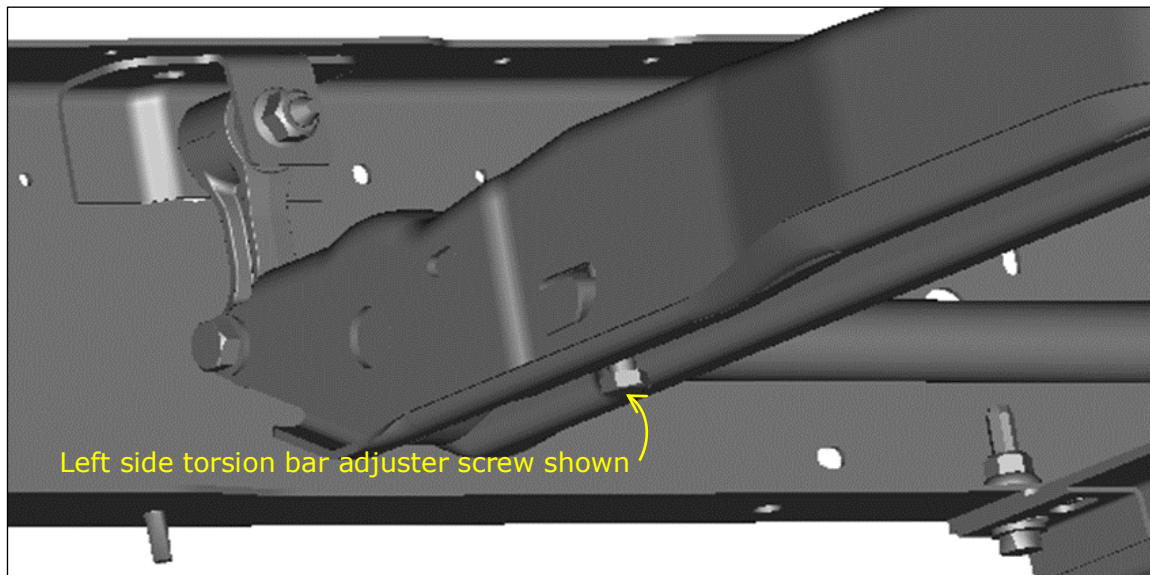

Figure 3
7. Adjust trim height with torsion bar adjuster screws (both L & R) as shown in Figure 3. (Clockwise raises front of vehicle).